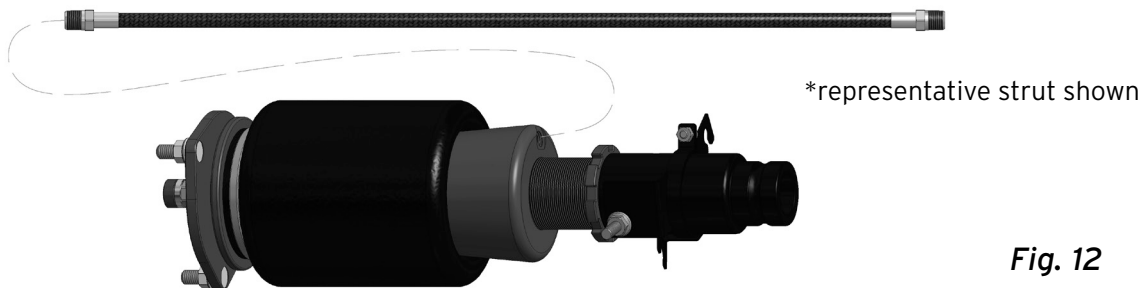

Fig. 12
1. Begin by installing the leader line into the air spring. Tighten the appropriate fitting to the air line (1 3/4 turns beyond hand-tight). Tighten the leader line into the air spring 1 3/4 turns beyond hand-tight (Fig. 12).